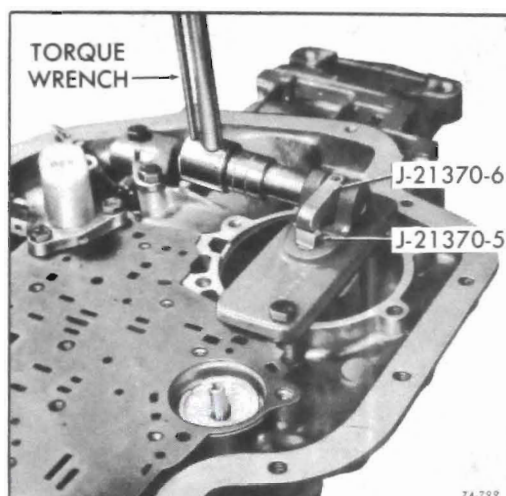

Figure 76-522
b. Apply 25 lb.ft. torque and select proper pin to be used during assembly of transmission. See Figure 76-522.